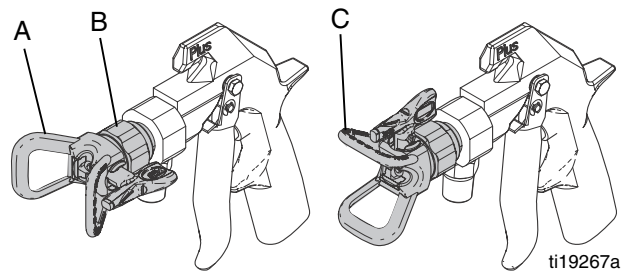

FIG. 3
1. To adjust the spray pattern direction, relieve pressure. Loosen the tip guard retaining nut (B). Rotate the tip guard as necessary to achieve a vertical or horizontal spray pattern. See FIG. 3. Tighten the nut.